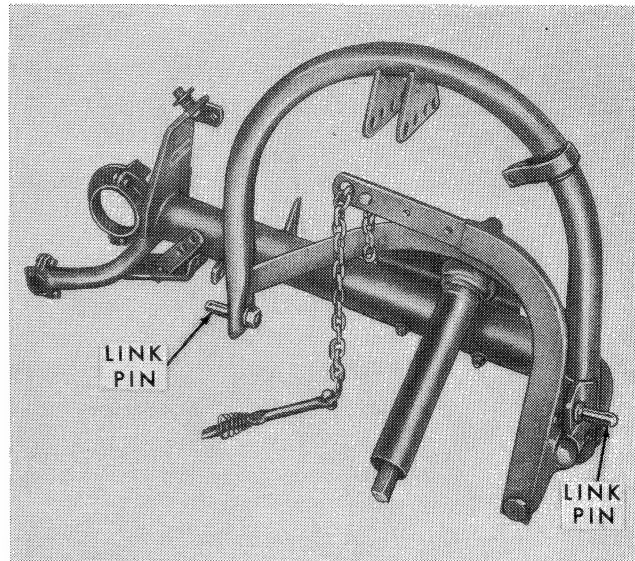

*Figure 30*
1. Insert the pivot shaft, Figure 30, in the left end of the lower frame, and rotate until the inner flange on the pivot shaft engages in the outer flange on the lower frame, as shown.
2. Position the left leg of the upper frame on the pivot shaft. Secure by rotating the upper frame until the inner flange on the pivot shaft engages in the outer flange of the upper frame, as shown in Figure 30.
3. Insert the shaft on the bellcrank into the upper frame bracket, as shown in Figure 30. Secure by rotating the bellcrank until the inner flange on the upper frame bracket engages in the outer flange on the bellcrank.